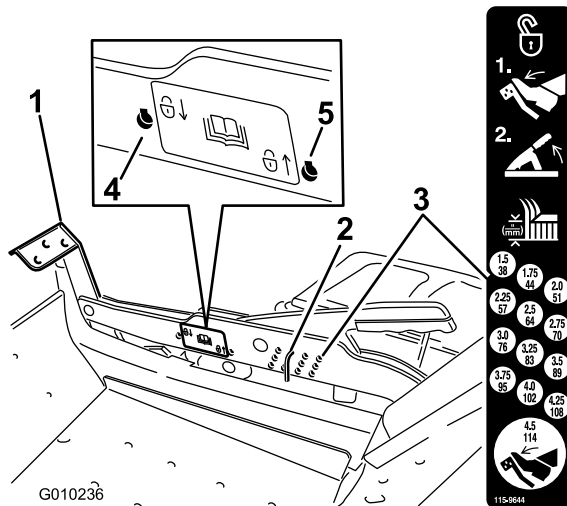

Figure 27
1. Push on the deck lift pedal with your foot and raise the mower deck to the transport position (also the 4-1/2 inch (114 mm) cutting height position) (Figure 27).
2. To adjust, remove the pin from the height-of-cut bracket (Figure 27).
3. Select a hole in the height-of-cut system corresponding to the height-of-cut desired and, insert the pin (Figure 27).
1. Push on the deck lift pedal with your foot and raise the mower deck to the transport position (also the 4.5 inch (114 mm) cutting height position) (Figure 27).
2. Remove the pin from the height-of-cut bracket (Figure 27).
3. Select the lower hole on the lock decal and insert the pin (Figure 27).
4. Select the upper hole on the lock decal and insert the pin (Figure 27).